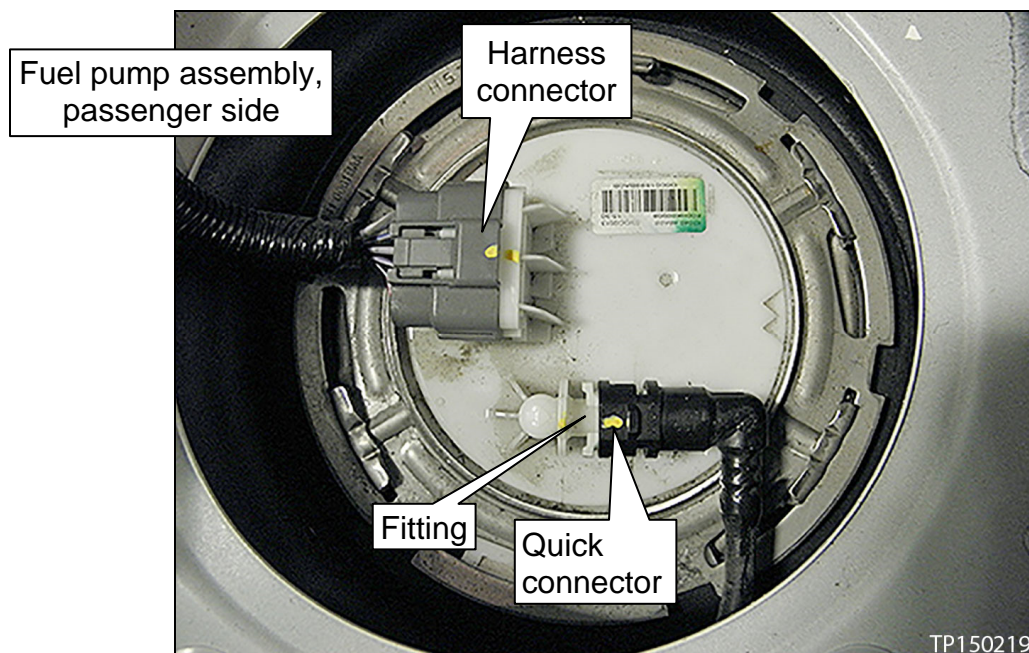

Figure 7
13. Disconnect the harness connector from the fuel pump assembly (see Figure 7).
14. Disconnect the quick connector by pressing in both tabs and pulling it off the fitting (see Figure 7).